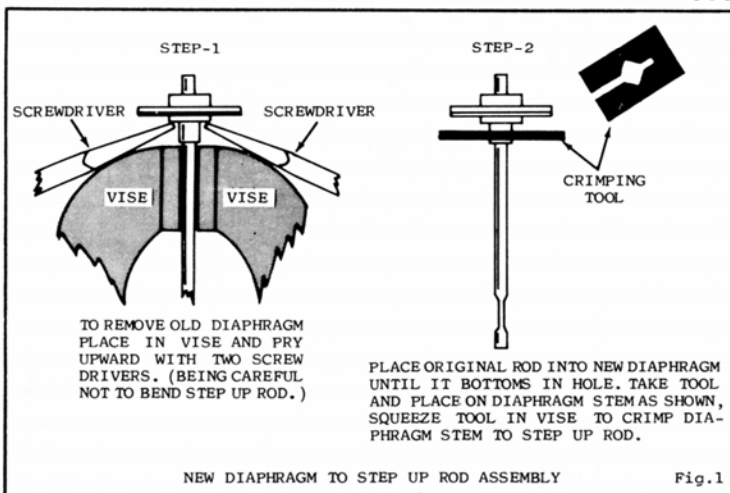

Fig. 1
- STEP UP ROD TO DIAPHRAGM ASSEMBLY (34). SEE FIG. 1.
- PLACE STEP UP ROD AND DIAPHRAGM ASSEMBLY (34) IN POSITION. USING HAT SHAPED RETAINER (32), PRESS DIAPHRAGM DOWN IN PLACE AGAINST GASKET LEDGE IN CASTING. REMOVE RETAINER AND EXAMINE FOR EVEN ASSEMBLY. INSTALL (33), (32) AND NEW DIAPHRAGM COVER (31) USING A 5/8" SOCKET AS A DRIFT AND TAP IN PLACE WITH A HAMMER. NEXT INSTALL CONICAL WASHER (30) WITH SMALL OPENING DOWN USING A 1/2" SOCKET AS A DRIFT TAP WITH HAMMER UNTIL WASHER IS DRIVEN INTO COVER 3/32" TO 1/8" BELOW TOP EDGE OF COVER. CAUTION: DO NOT STRIKE CENTER OF COVER OR DRIVE CONICAL WASHER IN BEYOND 1/8".